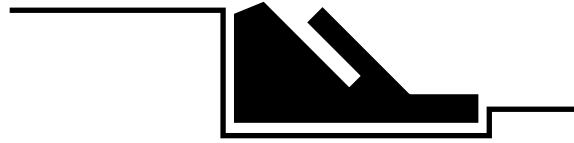

Fig. C5-15 - Gasket in correct position
2. Replace the gasket on the inner surface of the cover for the heat exchanger. Figure C5-15 shows how the gasket should sit in its slot. Replace the gasket (p/n R2069400) if it is damaged.